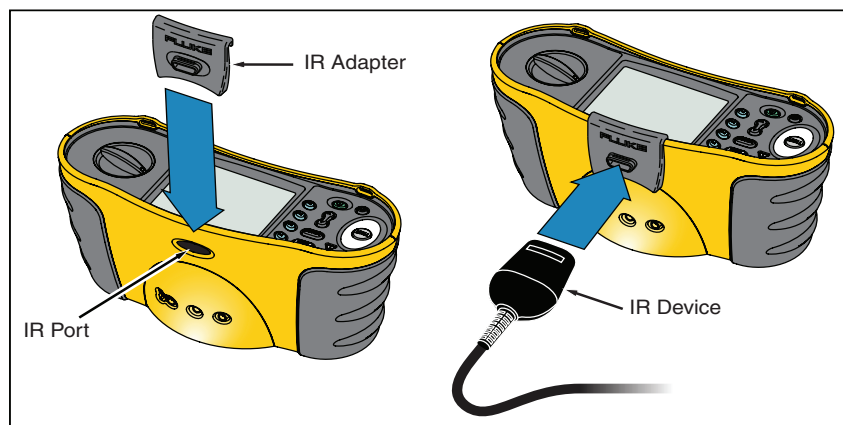

Figure 23. Attaching the IR Adapter
2. Attach the IR adapter and the device to the tester as shown in Figure 23. Be sure to align the IR adapter to the IR port on the tester.